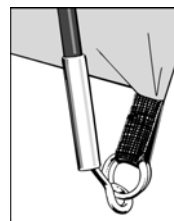

Figure 1.
- **Ring and Pin.** Locate one end of each pole onto the corresponding metal pin. The metal pin inserts into the hollow metal ferrule on the end of each pole. **(See Figure 1).** Push the pole into a curve from the opposite side, one at a time, and locate all pole ends onto the metal pins.